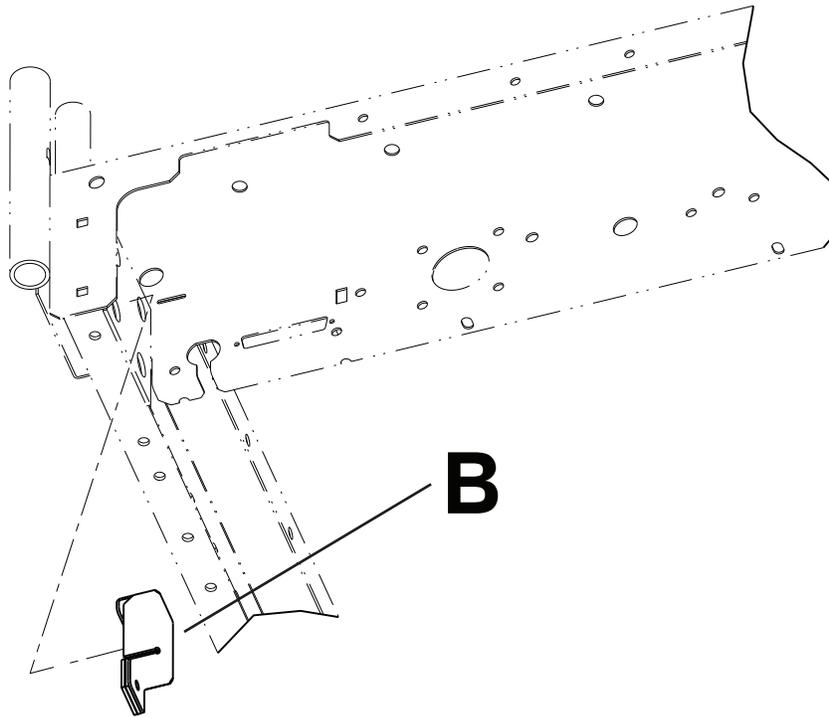

Figure 19 – Battery housing
If the 9V nurse call battery needs to be replaced, a message will appear on the footboard display. The battery is located on the patient left side at the head end of the bed (B) (Figure 19). No tools are required to replace the battery.
2. Separate the hook and loop fasteners that secure the battery housing (B) to the litter frame and lift the battery housing until it is free from the litter frame (Figure 19).